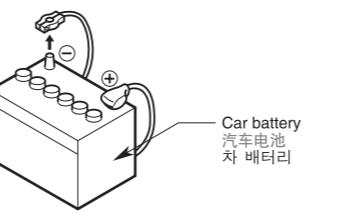

Figure 1 / 図 1 / 그림 1
- Be sure to disconnect the battery "(-)" terminal before starting. This is to prevent short circuits during installation. (Figure 1)
- 开始之前请务必断开电池的“-”端子，以免在安装中造成短路。（图1）